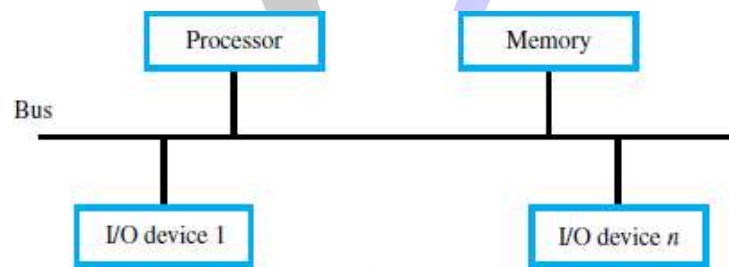

Figure 7.1 A single-bus structure.
- A **single bus-structure** can be used for connecting I/O-devices to a computer (Figure 7.1).